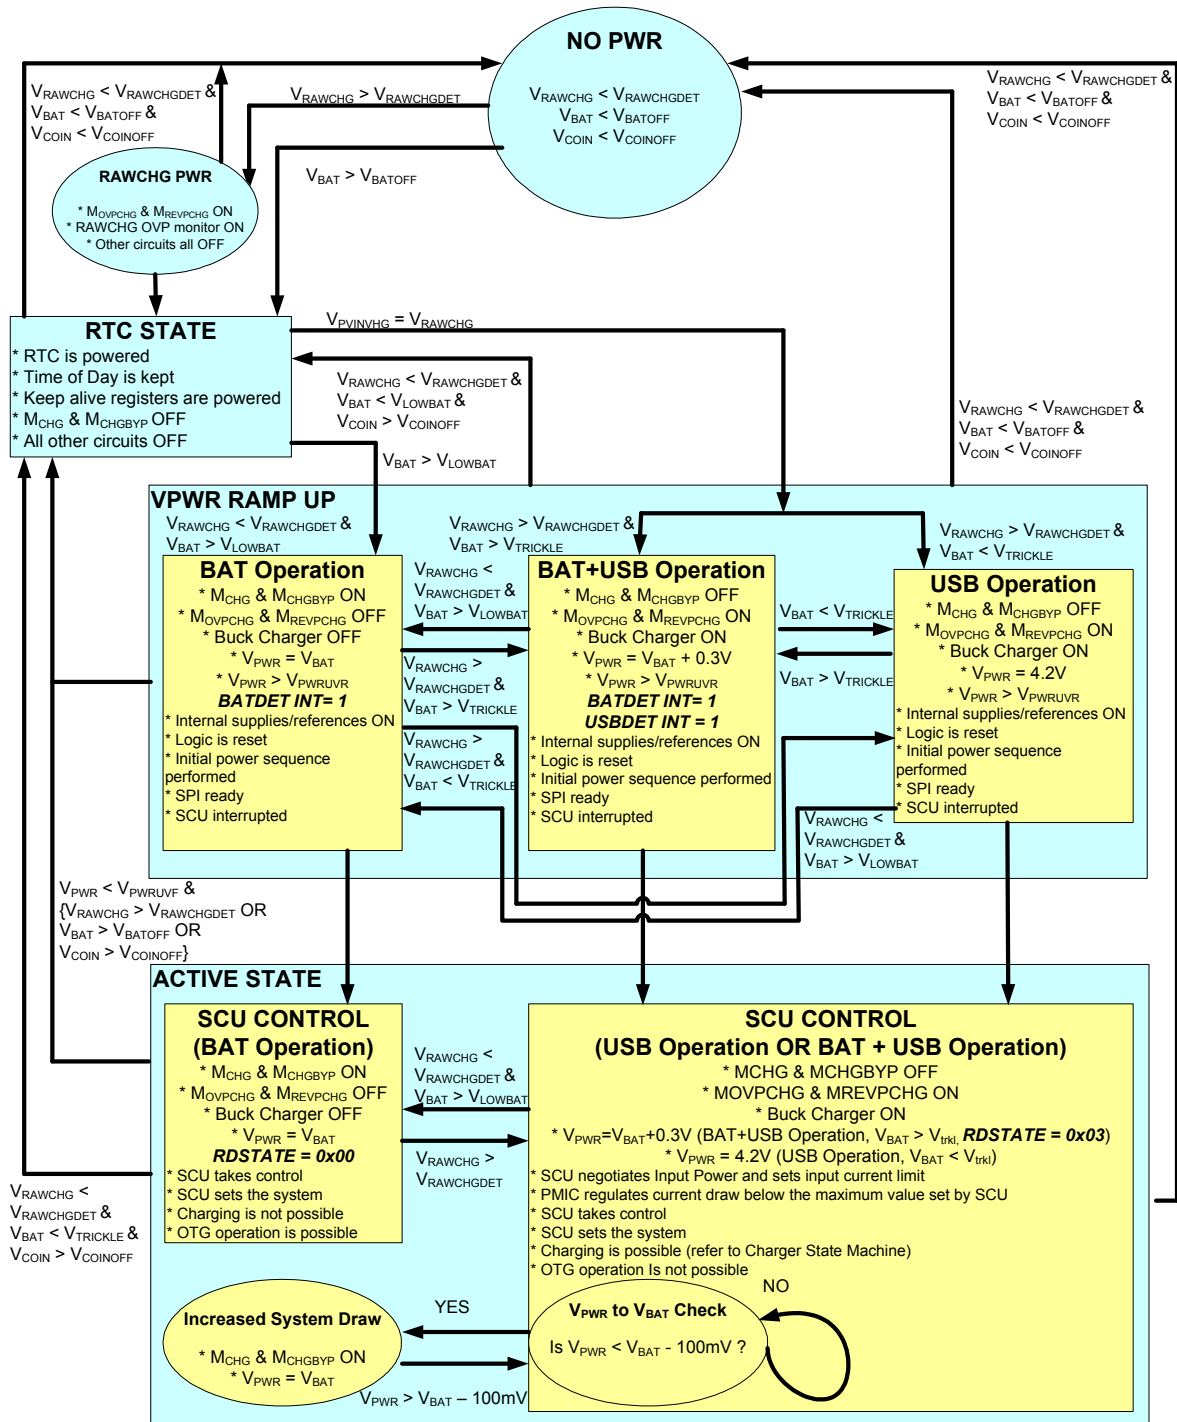

Figure 18. 900841 Power States
Figure 18 shows the flow of power, the different power states, and the conditions necessary to transition between
1. $V_{\text{RAWCHG}} > V_{\text{RAWCHGDET}}$: A charger input is valid and has been detected. Note that this is the same condition for an RTC state. This means that if this condition occurs, the device goes through the RTC state, then directly into a V_{PWR} ramp up sequence to try and get to the active state (see Figure 18 for more details).
Reference Figure 18 and Battery Interface and Power Path Management.